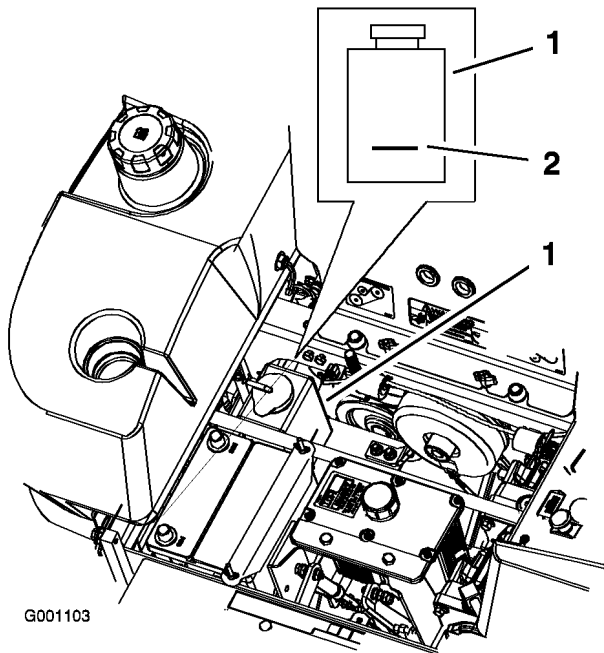

Figure 53
3. With the engine cool, check the overflow bottle level. The fluid needs to be up to the bump on the outside of the overflow bottle (Figure 53).
4. If the coolant level is low, add a 50/50 mix of extended life antifreeze/Dex-Cool® and water to the overflow bottle (Figure 53).
5. Add the 50/50 coolant mix to the overflow bottle and fill it to the indicator line on the bottle (Figure 53).